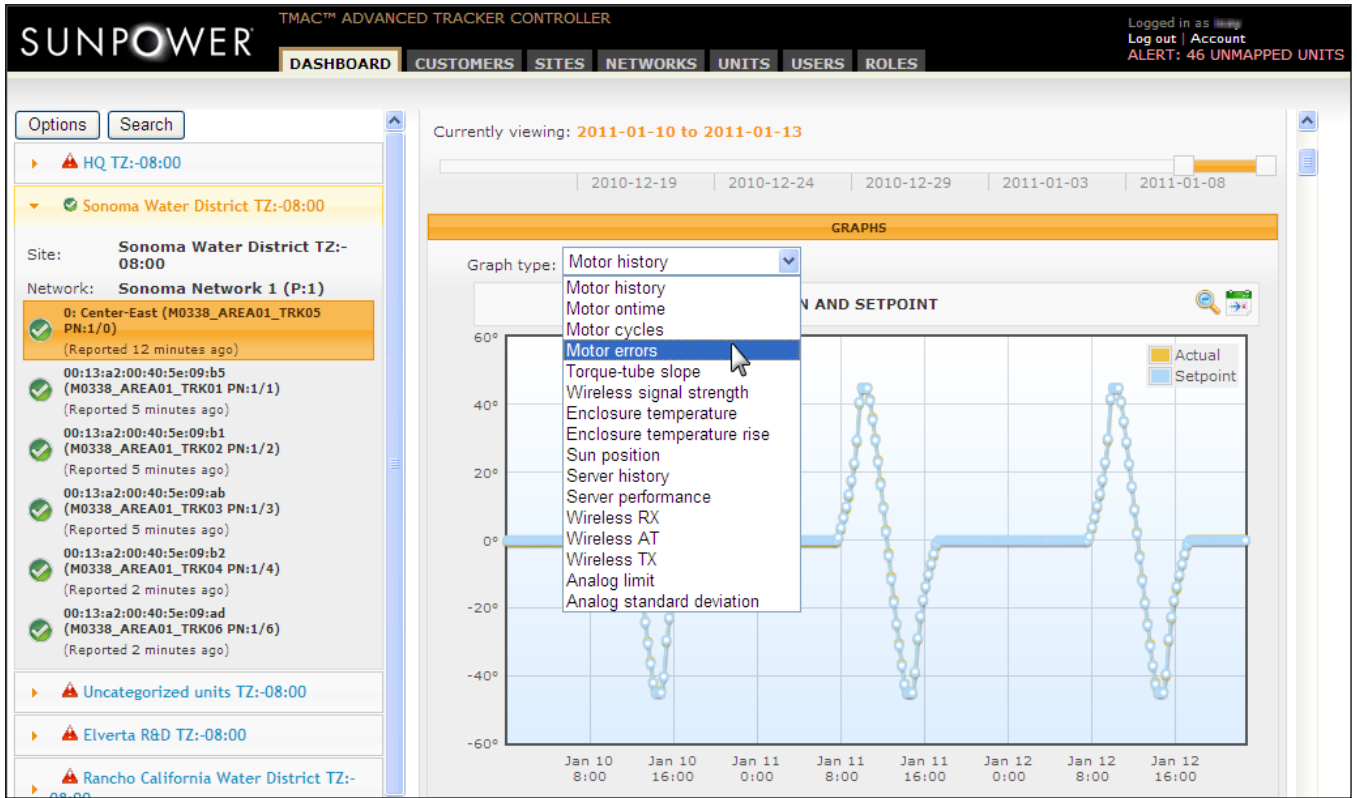

Fig. B33
3. In the **GRAPHS** section, select *Motor errors* in the **Graph type** drop-down list (Fig. B33).